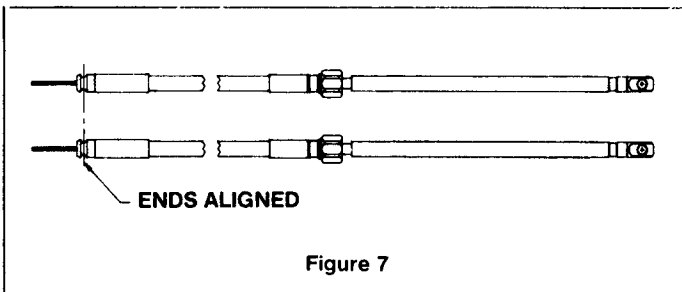

Figure 7
**STEP 1.** Push both output rams of the cables to the fully retracted position. Make sure that they stay fully retracted during installation into the helm. Remove the protective sleeves from Steering Cables, make sure that dirt does not get onto the lubricated cable ends. Hold both cables together at the helm end with the faces of the conduit fittings flush, as shown in Figure 7.